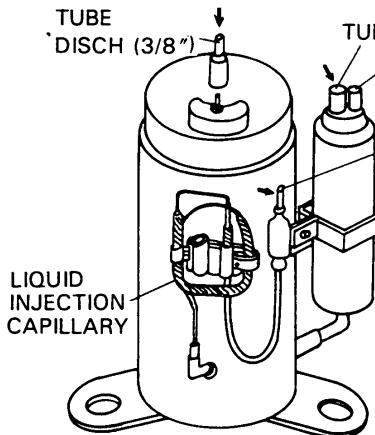

Fig. 19
- 5) With an Oxy-Acetylne torch apply heat uniformly and unbraze the joints of upper section of the Liquid Injection Capillary tube to the compressor, the upper section of the accumulator and the upper section of the compressor discharge tube respectively, and pull them free with pliers. Fig. 19 shows unbrazing points with arrows.